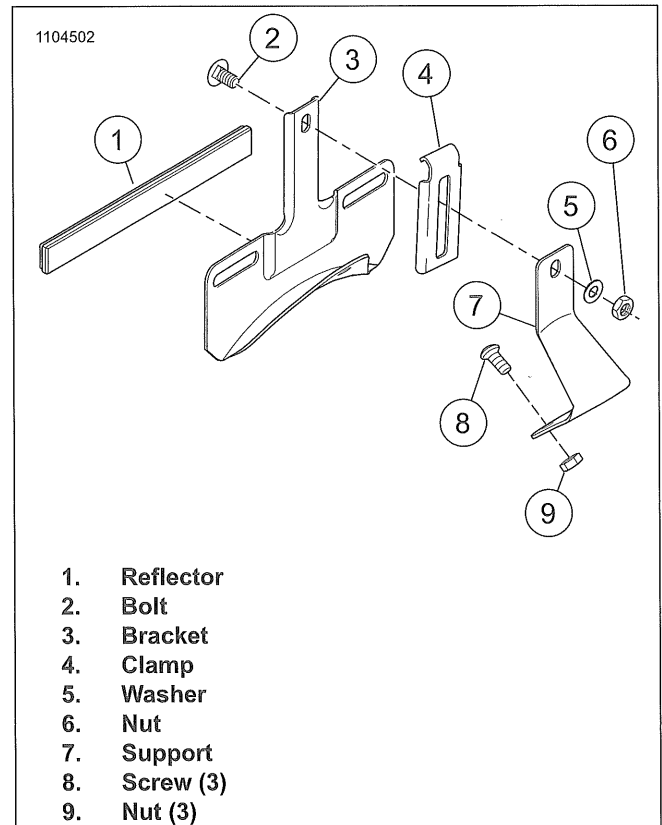

Figure 3-128. Standard License Plate Bracket
1. See Figure 3-128. Remove license plate bracket.
- a. Reach up under the rear fender and remove nuts (9).